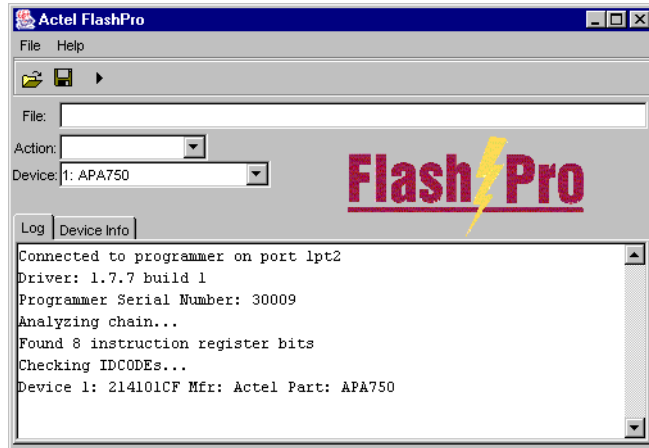

Figure 2-4. FlashPro: Analyzing Chain
1. **From the File menu, click *Analyze Chain*.** Chain details appear in the Log window, as shown in Figure 2-4. If you encounter any failures,